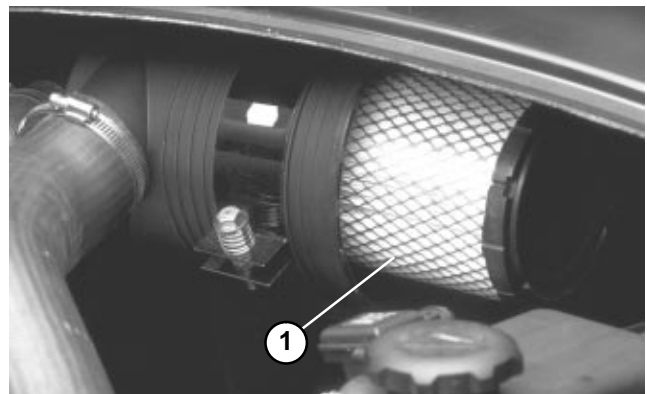

Figure 26
2. Gently slide filter (Fig. 26) out of air cleaner body to reduce the amount of dust dislodged. Avoid knocking filter against air cleaner body.